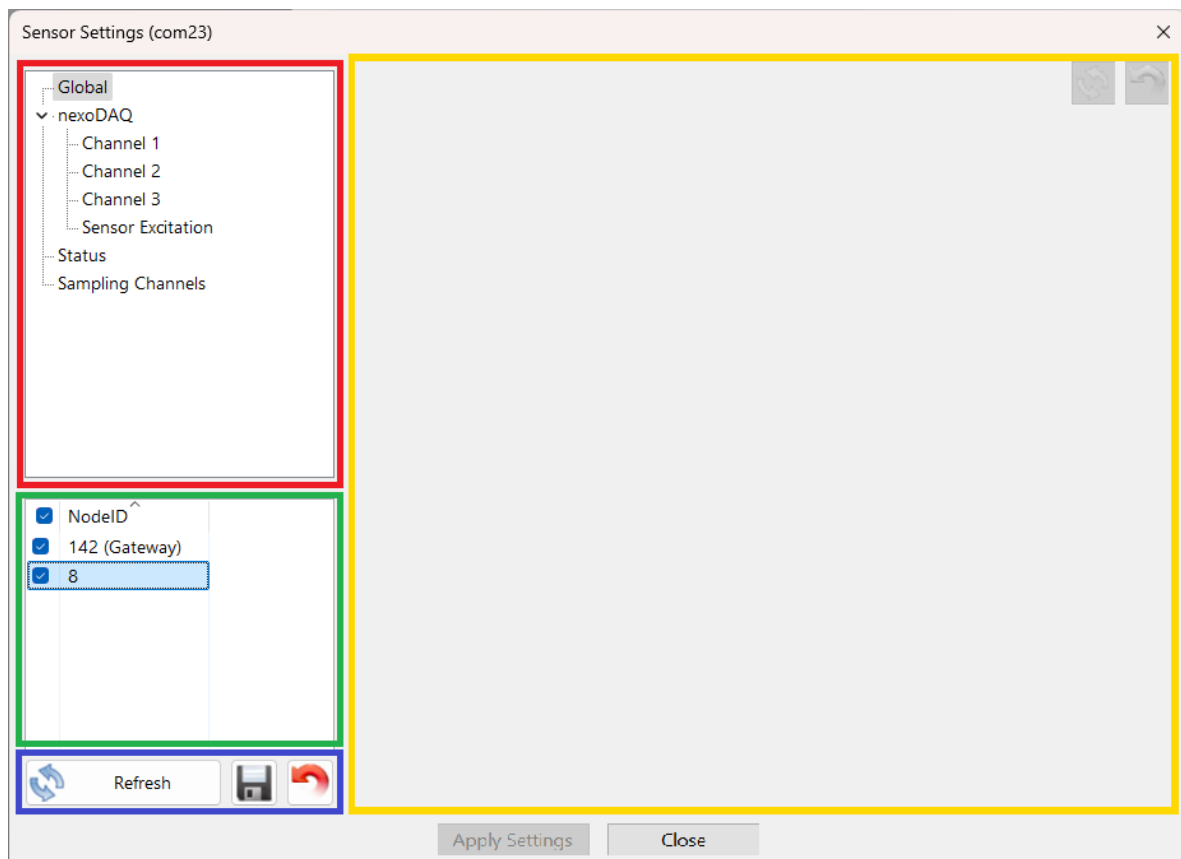

Figure 41: Sensor Settings
Figure 41 shows the *Sensor Settings* window, which is divided in the following areas:
- *The node list area*, marked with **green** in Figure 41, contains the list of devices available via the currently selected connection. When a node is *selected*, its configuration options are shown in the sensor tree. When a node is *checked* by using the checkbox beside it, the actions of the buttons refer to this node. In Figure 41, all nodes are checked, so the configuration is applied to all these nodes after pressing the *Apply Settings* button.
- *The sensor tree*, marked with **red** in Figure 41, shows the available configuration options of the selected nodes in the node list. When choosing an option in the tree, the corresponding configuration settings are shown in the settings panel. The different configuration options in the sensor tree are discussed in the subsequent sections.
- *The buttons*, marked with **blue** in Figure 41, have the following functions:
- *The settings panel*, marked with **yellow** in Figure 41, shows the settings available for the selected configuration option of the selected node in the node list. These settings are discussed in detail in the subsequent sections. When invalid or not recommended settings are used, these settings are marked with a red (invalid) or orange (not recommended) colour. Invalid settings cannot be applied. Error, warning and information messages are shown below the *Apply Settings* and *Close* buttons. The settings panel also contains a **Refresh** and **Restore** button at the top-left corner. These buttons can be used to refresh or restore the *selected* configuration of the *selected* node.